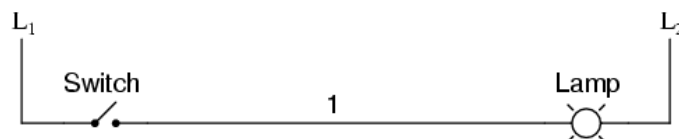

Figure 2.2
(B) The relay ladder diagrams – Relay Ladder diagrams are specialized schematics commonly used to document industrial control logic systems. These ladder diagrams are the most commonly used diagrams for non-electronic control circuits (Figure 2.2).